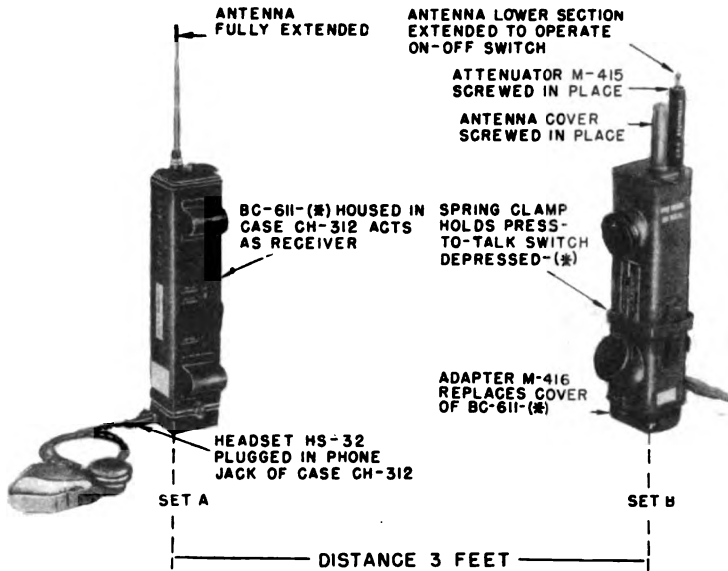

Figure 4. Preparation for tuning of receiver circuits.
10. Preparation for Tuning of Receiver Circuits (Fig. 4)